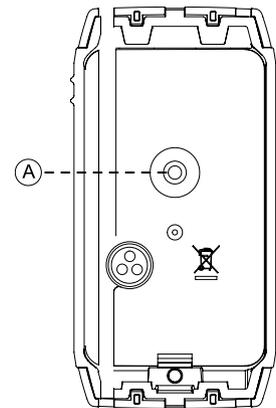
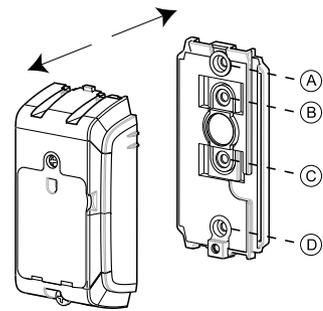
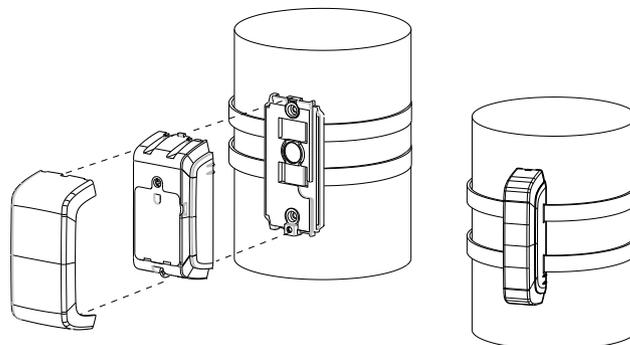

Figure 3: Tamper (A)
Figure 6: Device and bracket separation
Figure 8: Curved surface mounting
Attention: Some MC-312 PG2 models have a back tamper switch behind the device. See Figure 3. Ensure the device is seated firmly within the bracket at all times so that the switch lever presses against a special break-away bracket segment that is loosely connected to the bracket. Ensure the break-away segment of the bracket is fastened securely to the wall (holes B and C in Figure 6). If the detector unit is forcibly removed from the wall, this segment will break away from the bracket, causing the tamper switch to open.
3. Separate the device from the bracket. See Figure 6.
Note: Use both the uppermost and lowermost hole (A and D in Figure 6) in the device bracket for standard mounting. Add both middle holes (B and C in Figure 6) for tamper protection.
7. Mount the magnet base with two supplied screws to an adjacent surface and attach the magnet to the magnet bracket. See Figure 6.
- When mounting the device on a curved surface, follow steps 1 to 3 in 3.3 *Mounting the MC-312 PG2* and then insert the straps through the slots in the device and magnet brackets (see Figure 8) and fasten both straps around the curved surface. To avail of the back tamper feature, use both middle holes in the device bracket (B and C in Figure 6) when you drill and screw into the mounting surface.